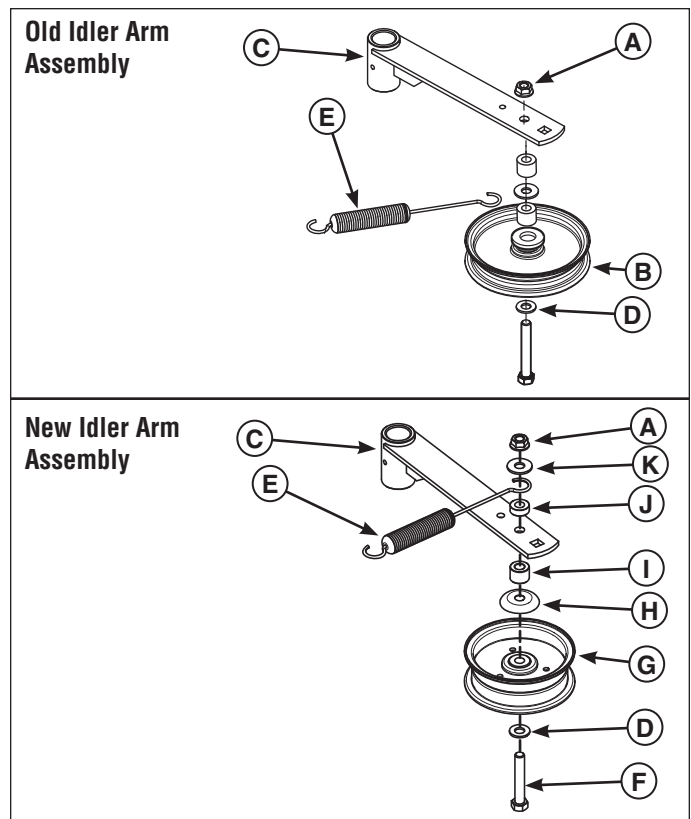

Figure 8. Updating the Idler Arm Assembly
1. Loosen and remove the 1/2 nylock flange nut (A, Figure 8) that secures the idler pulley (B) to the idler arm (C). Discard all of the components except for the 1/2" SAE washer (D), belt tensioner spring (E) and the idler arm.
2. Route the new 1/2 X 3" bolt (F) through the existing 1/2" SAE washer (D), the 5" idler pulley (G), the pulley shield (H), the .52 X 1.00 X .75 spacer (I), the idler arm (C), the .52 X 1.00 X .38 spacer (J), belt tensioner spring (E), 1/2 USS washer (K) and secure using a 1/2 nylock flange nut (A).